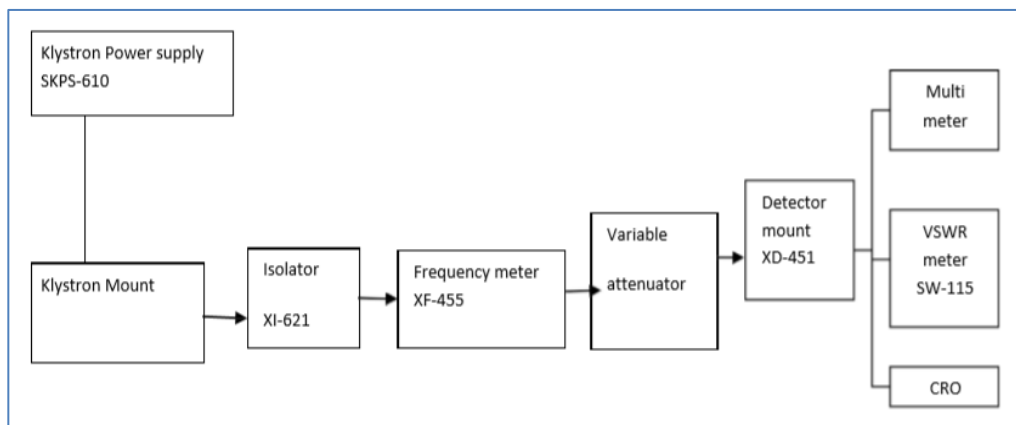

Figure 2.2: Reflex Klystron Characteristics
- If the beam voltage in a reflex klystron is 500 V and the repeller voltage is 300 V, Calculate the velocity of the electron beam as shown in the figure 2.2.